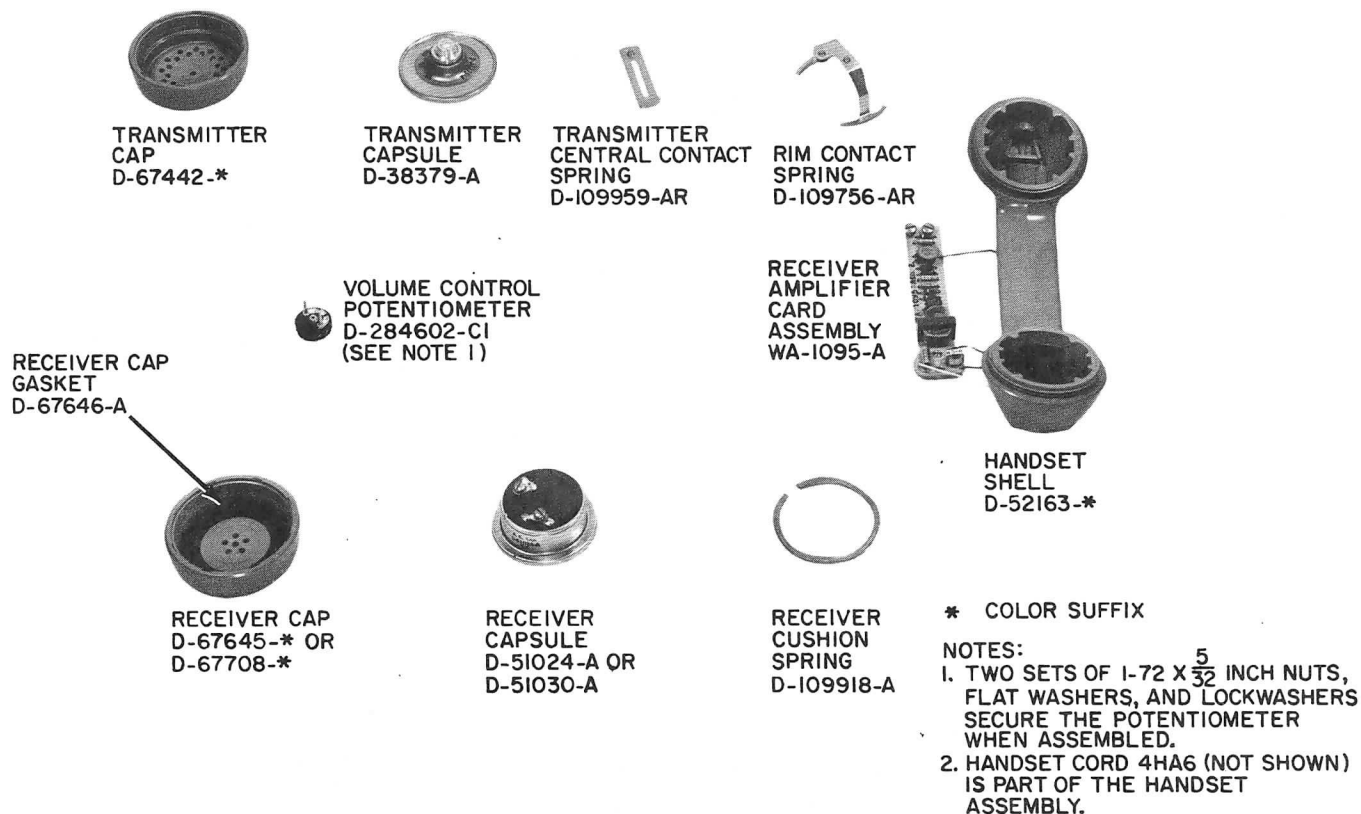

Figure 2. Type 820 Handset - Components.
1.05 Shop procedures for the Type 820 handset can be accomplished by replacing defective components. These components are identified in Figure 2. Replacement procedures are provided in Part 2 of this section. A receiver amplifier card assembly test is described in Part 3.